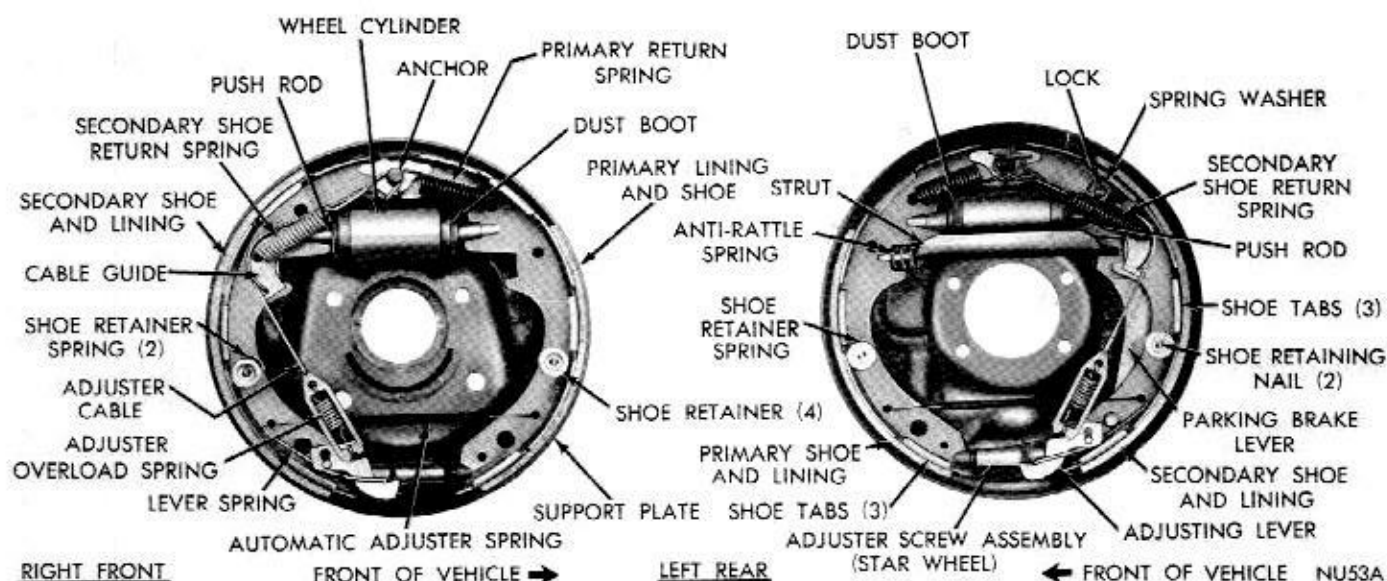
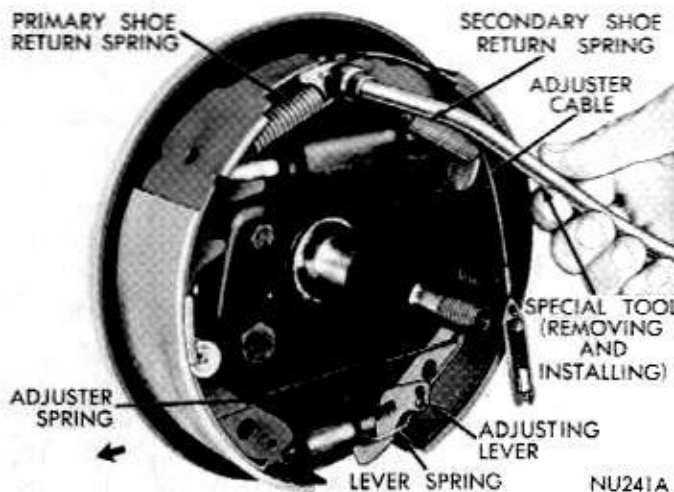
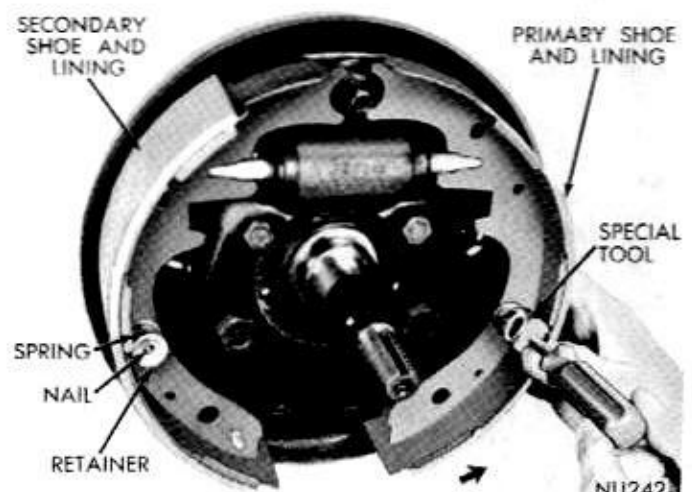
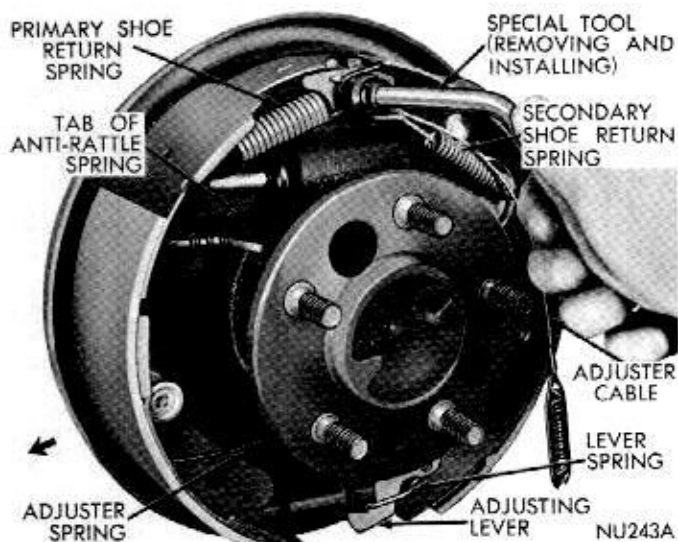

Fig. 1—Ten Inch Brake Assembly
Fig. 4—Removing or Installing Shoe Return Springs (Left Front)
Fig. 5—Removing or Installing Shoe Retainers, Springs and Nails (Right Foot)
Fig. 6—Removing or Installing Shoe Return Springs (Left Rear)
(1) Remove rear plug from brake adjusting access hole.
(2) Insert a thin screw driver into brake adjusting hole and push adjusting lever away from star adjusting wheel. **Care should be taken not to bend adjusting lever.**
(3) Insert Tool C-3784 into brake adjusting hole and engage notches of brake adjusting star wheel. Release brake adjustment by prying down with adjusting tool.
(4) Remove wheel cover, grease cap, cotter pin, lock, adjusting nut, outer wheel bearing and remove wheel and drum assembly from spindle to expose brake linings. (Figs. 1, 2 or 3).
(5) Inspect brake lining for wear, shoe alignment, or contamination from grease or brake fluid.
(1) Using Tool C-3785 remove brake shoe return springs (Fig. 4). (Note how secondary spring overlaps primary spring). (Fig. 1).
(2) Slide eye of automatic adjuster cable off anchor and unhook from adjusting lever. Remove cable, overload spring, cable guide and anchor plate.
(3) Disengage adjusting lever from spring by sliding forward to clear pivot, then working out from under spring. Remove spring from pivot. Remove automatic adjuster spring from secondary shoe web and disengage from primary shoe web. Remove spring.
(4) Remove brake shoe retainers, springs and nails, using Tool C-4070, (Fig. 5).
(5) Disengage primary and secondary shoes from push rods and remove from support. Remove adjusting star wheel assembly from shoes.
(1) Remove rear wheel, and drum retaining clips. Remove drum.
(2) Using Tool C-3785, remove brake shoe return springs (Fig. 6). (Note how secondary spring overlaps primary spring). (Fig. 1).
(3) Slide eye of automatic adjuster cable off anchor and then unhook from adjusting lever. Remove cable, overload spring, cable guide and anchor plate.
(4) Disengage adjusting lever from spring by sliding
(6) Using Tool C-4070, install shoe retaining nails, springs and retainers (Fig. 5).
(7) Install anchor plate over anchor.
(8) Slide "eye" of adjusting cable over anchor and against anchor plate. Engage end of primary shoe return spring in shoe web and install other end over anchor, using Tool C-3785.
(9) Install cable guide in secondary shoe web. Holding in position, engage secondary shoe return spring through guide and into web. Install other end over anchor, using Tool C-3785. (Be sure cable guide re-